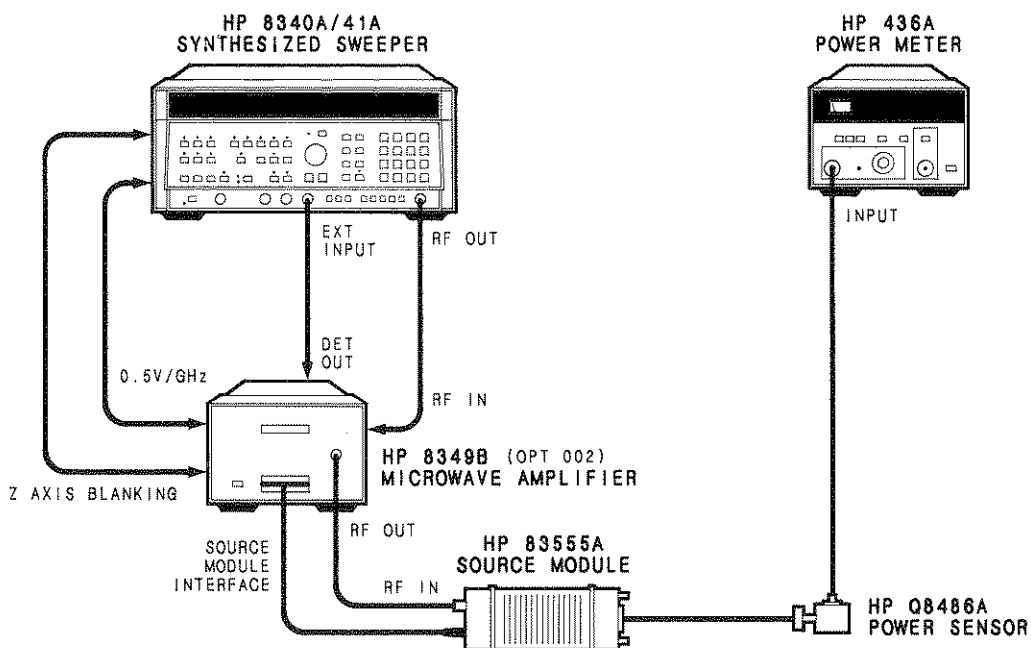

Figure 2-4. System Configuration
1. Connect the equipment as shown in Figure 2-4. Do not connect the HP Q8486A power sensor to the HP 83555A output.